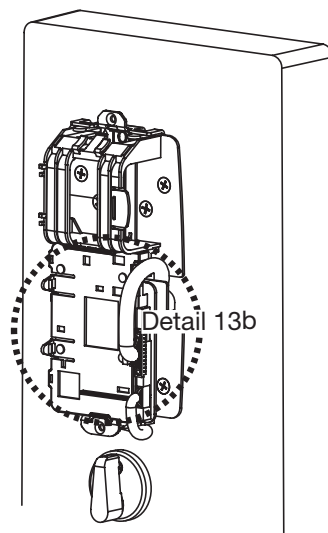

Fig. 13a
Secure the following connectors to the circuit board as shown (Fig. 13a and 13b Detail).
- Place (6) "AA" batteries into the compartment being careful to align polarity (- & +) according to case markings (Fig. 13a).